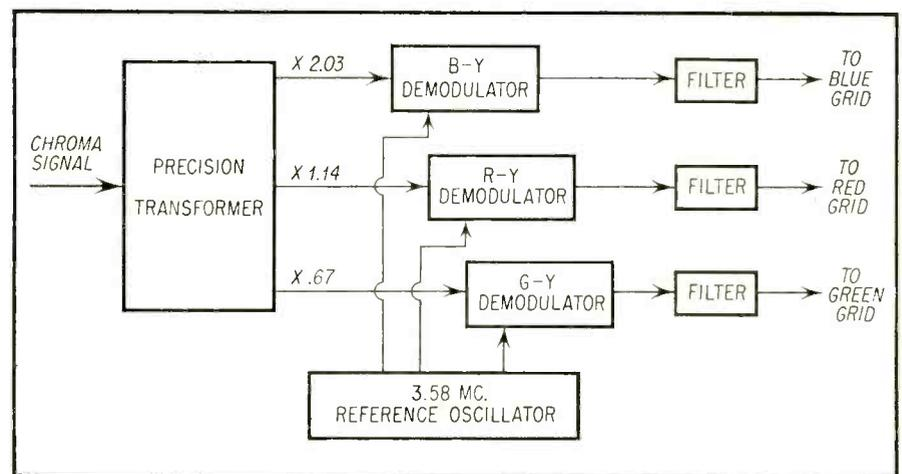

Fig. 1—Block diagram of high level 3-triode demodulator.
**I**N the previous installment the principles of high level demodulation were described whereby the color-difference signal outputs were provided by demodulating the chroma signal on the R-Y, B-Y, and G-Y axes (Fig. 1). As indicated in the figure the 3.58 mc reference signals are fed into the grids of each demodulator. Also, by means of a precision transformer the correct ratios of color-difference signals are made available at the demodulator outputs to drive the three grids of the picture tube. Finally, because the chroma signal is fed into each plate circuit high enough chroma signals are employed to drive the picture tube grids directly.